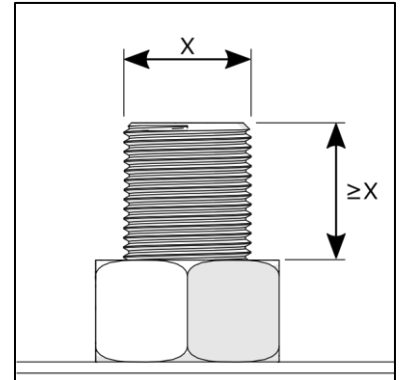

Figure 5.1: Minimum Stud Protrusion
- Before installing each tensioner, make sure studs are clean and that there is sufficient stud protrusion from the top of the nut. A minimum of 1 x Stud diameter is essential. E.g. For an M30 bolt, the minimum required stud protrusion is 30mm. (See figure 5.1)